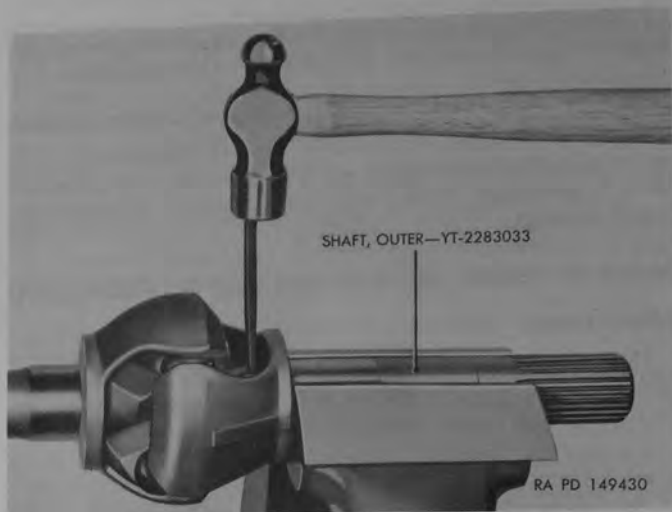

Figure 113. Universal joint center ball lock pin removal or installation.
c. Remove Center Ball Pin Lock Pin.—Position axle shaft and universal joint in a vise (fig. 113) or lay on a bench. Use a suitable punch and hammer to drive $\frac{3}{16}$ x $1\frac{5}{8}$ taper-grooved pin (B) out of outer shaft (fig. 113).
i. Install Center Ball Pin Lock Pin.—Install a new $\frac{3}{16} \times 1\frac{1}{8}$ taper-grooved pin (B) into drilled hole in outer shaft and drive into position (fig. 113). Remove assembly from vise and lay on bench or anvil so as to support one end of pin. Strike end of pin sharply with prick punch to expand end and lock it in position. Turn assembly over and expand opposite end of pin in the same manner.
- (1) *Position Assembly in Vise.*—Install assembly in vise in a vertical position with the outer shaft at the top and the vise jaws gripping the inner shaft just below the universal joint. Use soft jaw plates to protect shaft.
- (2) *Determine Play or Backlash.*—Firmly push down on outer shaft so that it rests on the center ball, at the same time, attempt to twist the joint in both directions. The presence of play or backlash indicates the need of still larger outer balls.
- (3) *Determine Pull Required to Move Shaft Through Its Normal Operating Range.*—With assembly still mounted in vise, attach a spring scale within one inch of end of outer shaft. With spring scale, pull shaft through its normal operating range and note reading on spring scale. A pull of more than 30 pounds indicates that outer balls of too large an oversize have been installed. Ideal conditions when oversize outer balls are installed in used universal joints are as follows: Vertical or straight position—no play or backlash; 10 to 15 degree turn—30 pound maximum drag; 15 to 32 degree or full turn—free with slight lash permissible.